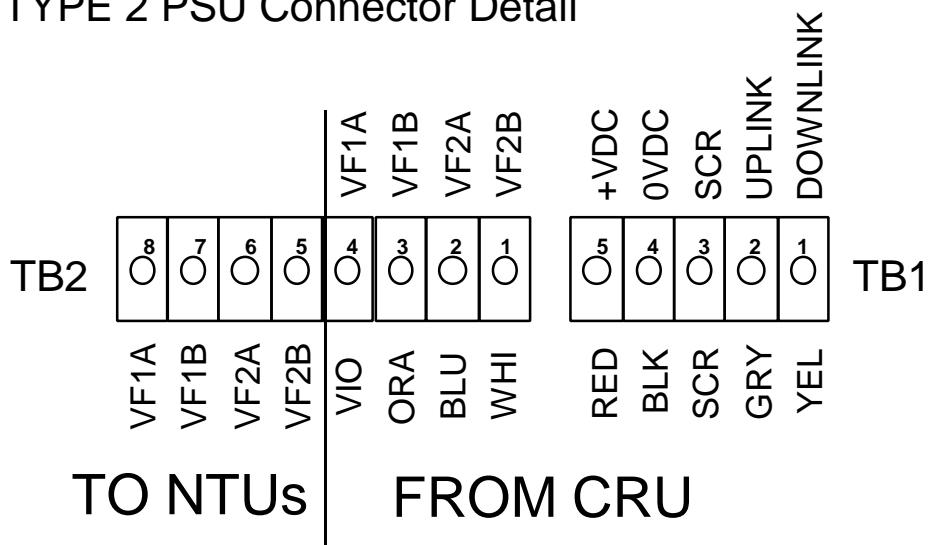

Figure 23. ST-V2 Drop Cable Connections to AC PSU (Type 2)
3. At the PSU terminate the wires of the drop cable with the red insulated terminal pins and screw to the terminal blocks(TB1 & TB2). Figure 23 below, illustrates the connections of the drop cable to the connector blocks inside the AC PSU.